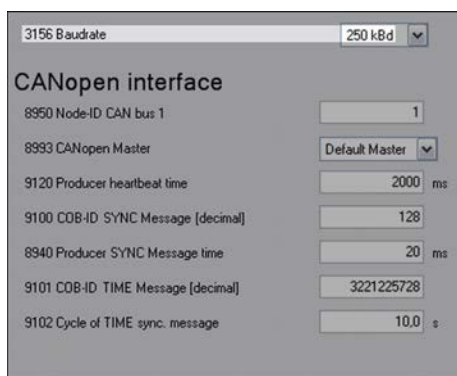

Fig. 214: Baud rate configuration (example ToolKit)
1. In ToolKit configure the baud rate as shown in (Fig. 214).